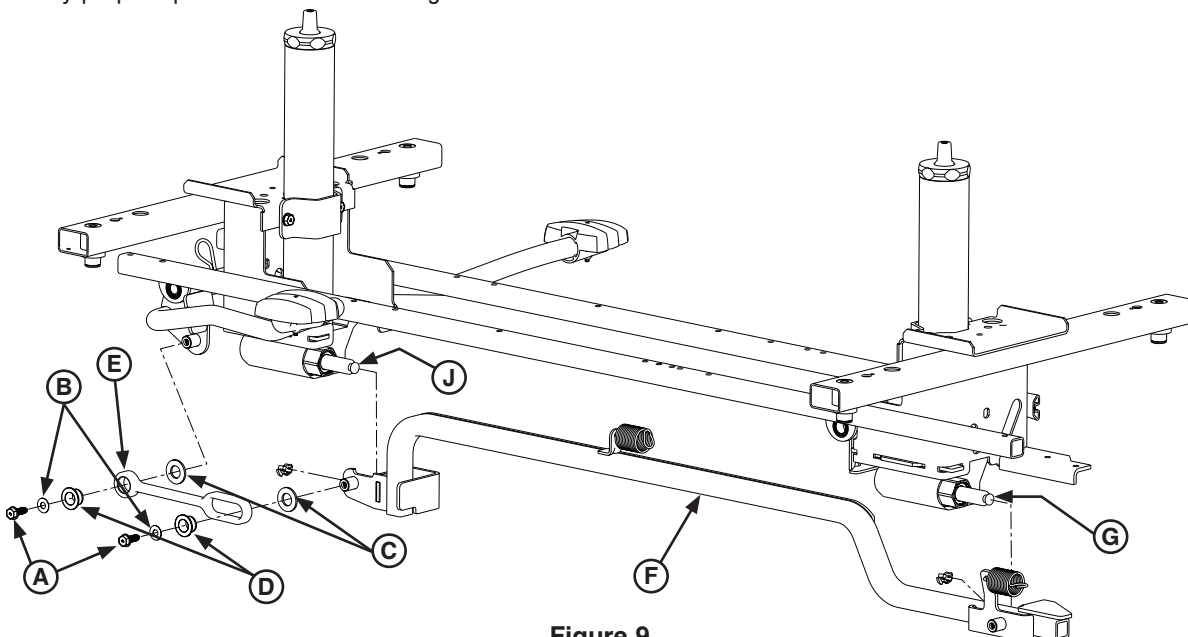

Figure 9
5. Lift up on the pump connecting rod and remove the pump piston (J) from the connecting rod(see Figure 9 on page 22).